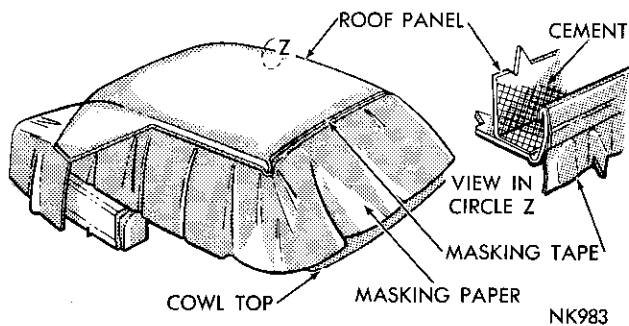
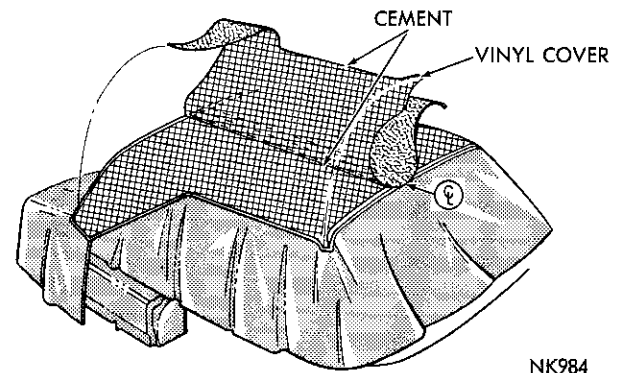

Fig. 171—Masking the Body
Fig. 172—Positioning Cover to Roof Panel
(1) Mask the body (Fig. 171) from the edge of the drain trough across the upper "A" pillar, across the windshield and rear window reveal across the top of the deck upper and bottom of the roof panel at the belt line.
(2) Locate and mark the center line of the roof panel and the vinyl cover at the front and rear ends. Remove the moulding clips and mark the location of the holes on the masking paper.
(3) Apply a thin film of cement to the center four inches of the roof panel and vinyl cover.
(4) When the cement becomes tacky but not wet to the touch, position the vinyl cover on the roof panel aligning the centerline marks.
(5) Apply cement to one half of the roof panel and extension and to the vinyl cover half on the same side (Fig. 172).
(6) When the cement becomes tacky but not wet to